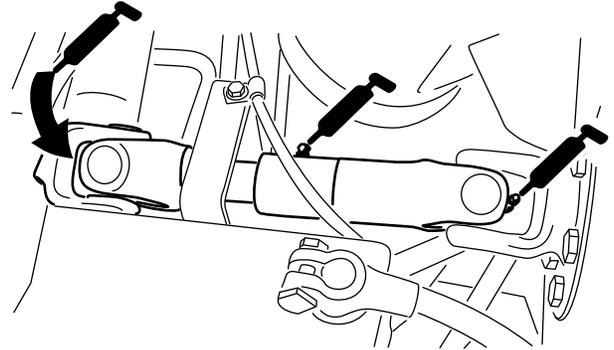

Figure 66
- Pump-driveshaft U-joint (3) (Figure 66)